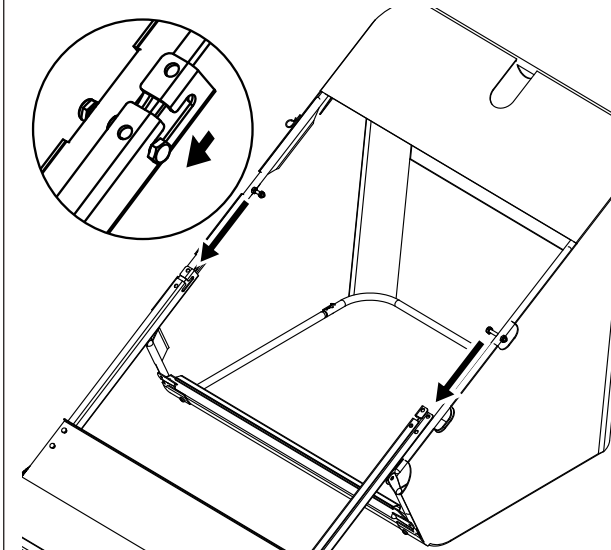

Figure 15
STEP 15: (SEE FIGURE 15)
STEP 16: (SEE FIGURE 15)
- Secure the straight hitch bracket (L) and curved hitch bracket (M) together on the front of the drawbar using 5/16-18 x 2-1/2" hex bolts (U) and 5/16-18 nylock nuts (T).
- Install the hitch pin (Y), spacers (Z), and 3/32" x 2-5/16" hair cotter pin (W).